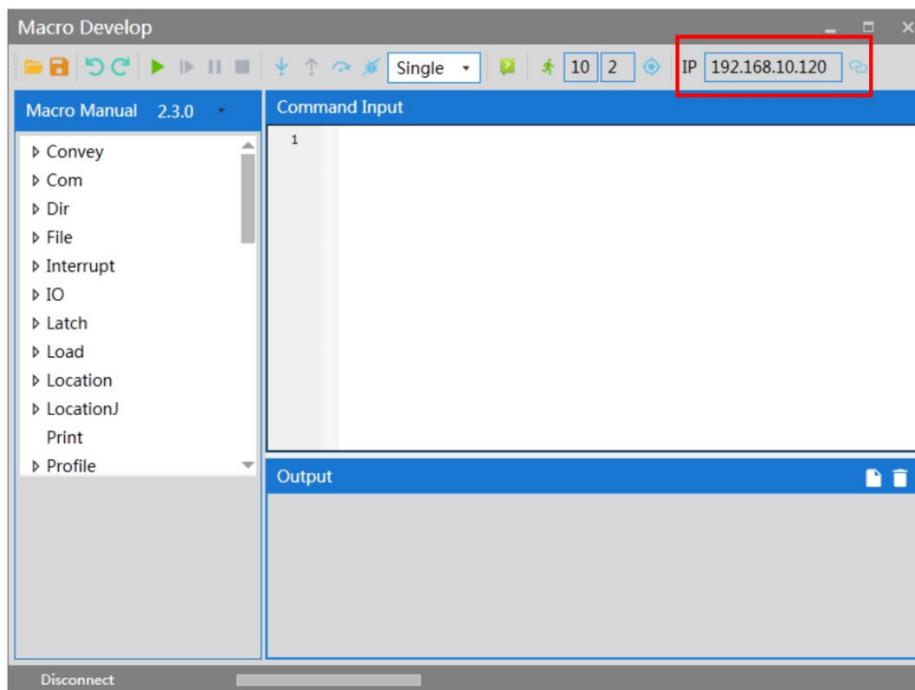

Figure 6-10 IP connection
Step 2 Click the IP address input field in the upper right corner, enter the default IP address (192.168.10.120) of the robot, and then click the <Connect> button on the right, as shown in Figure 6-10.